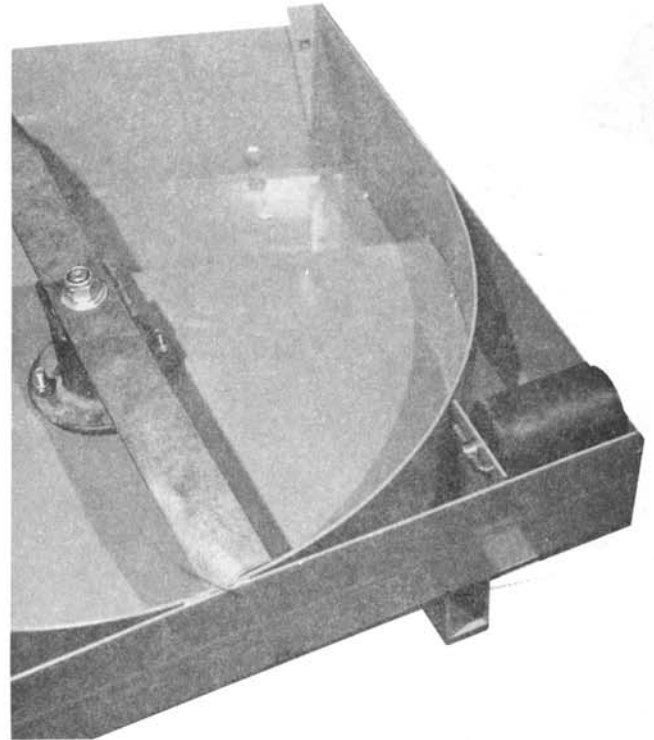

fig 5
5. Install the gage roller (item 54) using roller shaft, (item 53) washers, (item 56) and secure with pin lock (item 55) and cotter pin (item 57). Install a roller assembly in each rear corner. See fig 5.